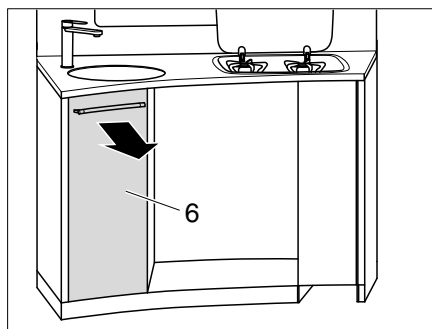

Fig. 130 Removing high kitchen drawers
- Remove the high kitchen drawer (Fig. 130,6).